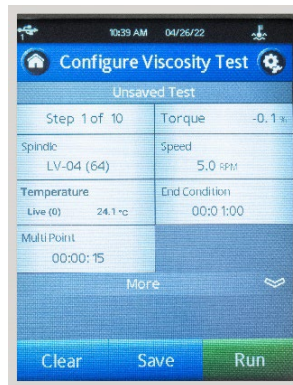

Figure 31: Home Screen of the Head Unit
19. This returns you to the home screen of the Head Unit. See Figure 31.